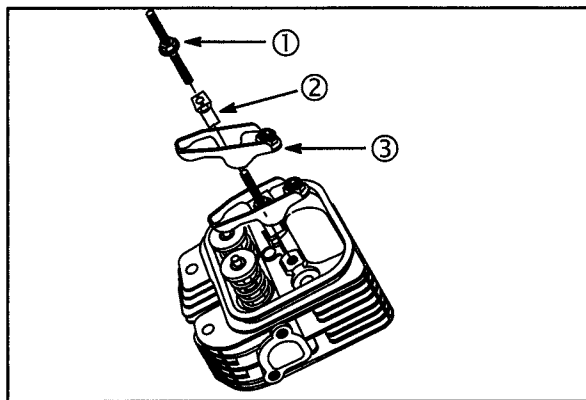

Fig. 11
1. Lubricate rocker arm supports (2) with clean engine oil.
2. Assemble rocker studs (1), rocker arm supports and rocker arms (3) to cylinder head, **Fig. 11**.